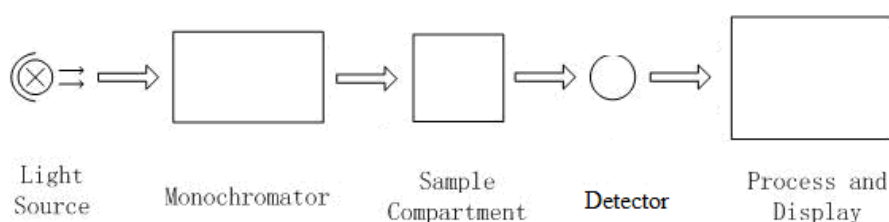

Fig 2-4 Block diagram for the Spectrophotometer
- 5) A digital display to indicate absorbance or transmittance. The block diagram (Fig 2-4) below illustrates the relationship between these parts.